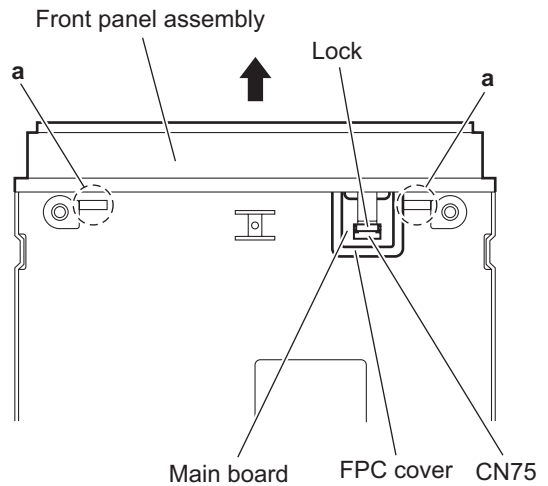

Fig.4
- (2) From the bottom side of the main body, remove the FPC cover. (See Fig.4.)
- (3) Release the lock of the connector **CN75** on the main board and disconnect the card wire. (See Fig.4.)
- (4) Release the joints **a** and remove the front panel assembly in the direction of the arrow. (See Fig.4.)